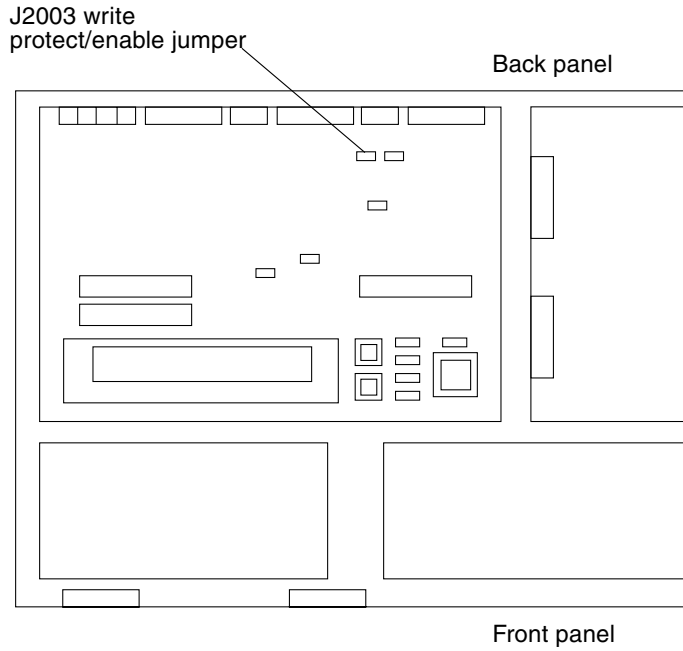

FIGURE 4-1 Sun Ultra 1 Series Write-Protect/Enable Jumper Location on Motherboard
- See FIGURE 4-1 if you have a Sun Ultra 1 system.